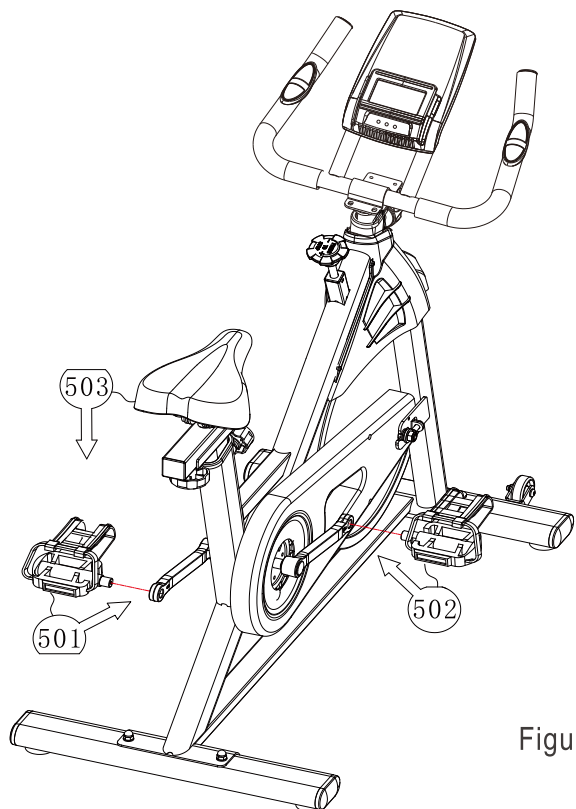

Figure 5
5. As shown in step 501 of Figure 5, screw the left-hand screw of the "left pedal" into the "left crank" screw hole of the "main frame" in a counterclockwise direction, and clamp the "left pedal" screw with a 16 # wrench. Slightly rearward to lock it to the "left pedal".
6. As shown in step 502 in Figure 5, screw the right-handed screw of the "right pedal" into the "right crank" screw hole of the "main frame", and use the 16 # wrench to clamp the "right pedal" screw to the rear position. Lock it to the "right pedal".
7. As shown in step 503 of Figure 5, attach the seat cushion to the seat cushion adjustment tube as shown in the figure, and tighten the screws under the seat cushion with an allen wrench.